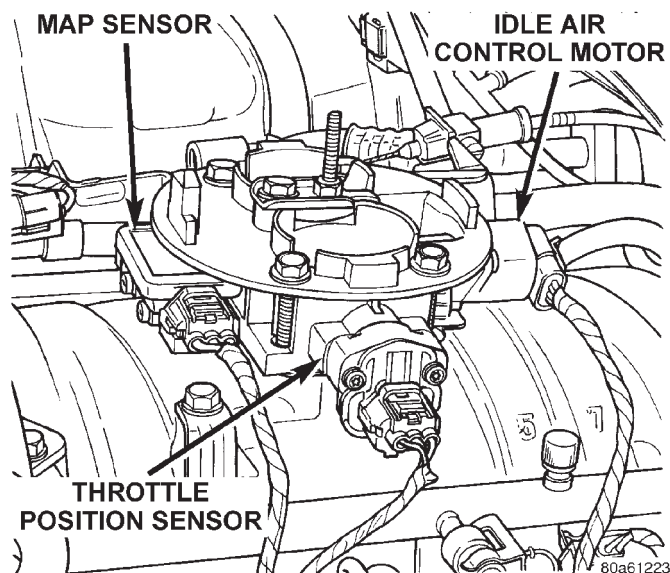
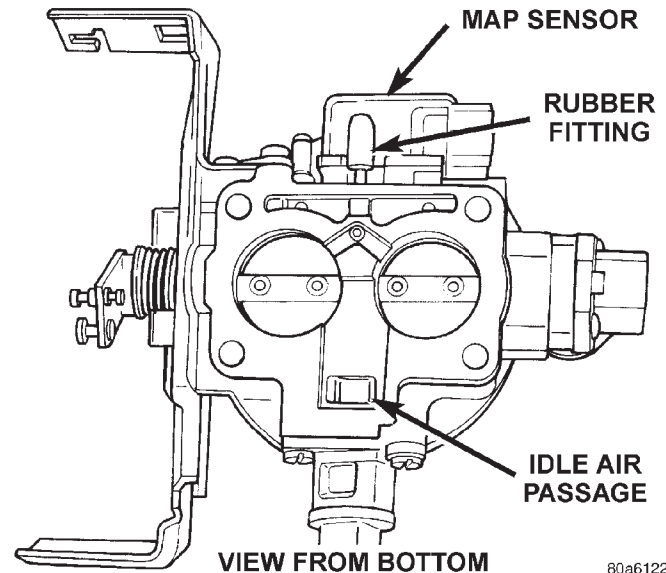

Fig. 20 Sensor and IAC Motor Location—Typical (V-8 Shown)
Fig. 21 Rubber L-Shaped Fitting—MAP Sensor-to-Throttle Body
(16) Verify MAP sensor electrical connector is firmly connected to MAP sensor (Fig. 20). Also verify rubber L-shaped fitting from MAP sensor to throttle body is firmly connected (Fig. 21).
(18) Verify harness connectors are firmly connected to idle air control (IAC) motor, throttle position sensor (TPS) and manifold absolute pressure (MAP) sensor (Fig. 20).